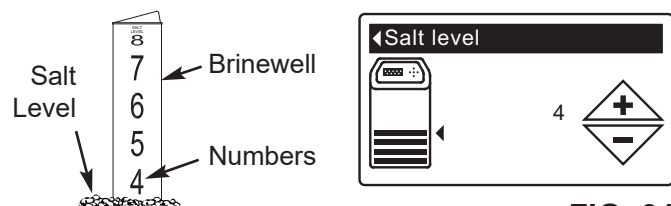

FIG. 31
5. Press the SELECT (O) button to display the Salt level screen (See Figure 31). This screen will not automatically exit for 15 minutes.
6. After adding and leveling salt, observe the numbered scale on the brinewell (See Figure 31). Press UP (▲) or DOWN (▼) to change the salt level to match the lowest number visible above the salt.